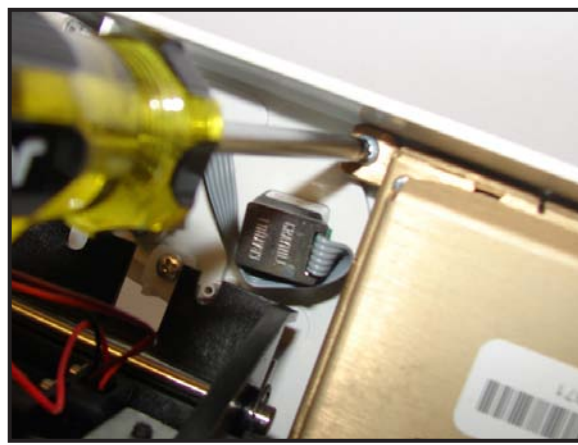

Figure 6-20
11. Use a Phillips screw driver to remove the four screws that attach the display assembly to the front bezel to release the display assembly (See Figure 6-20).